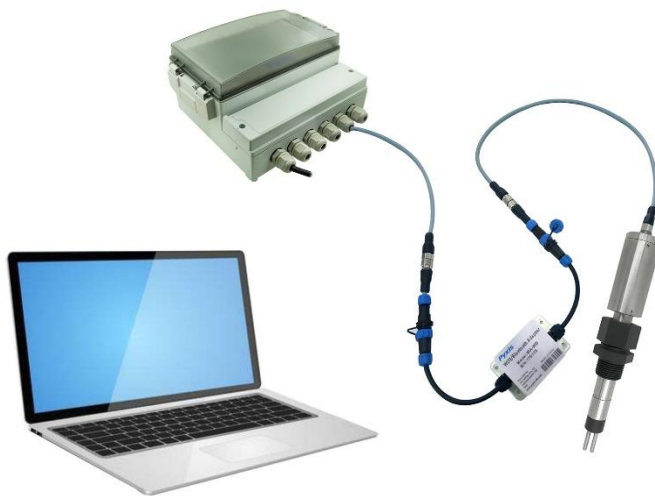

Figure 24. Connect to CR-300 via PC's built-in WiFi
1. Connect the probe to the WiFi/Bluetooth adapter first and then connect the adapter to the controller or a 24VDC power supply according to Figure 24.